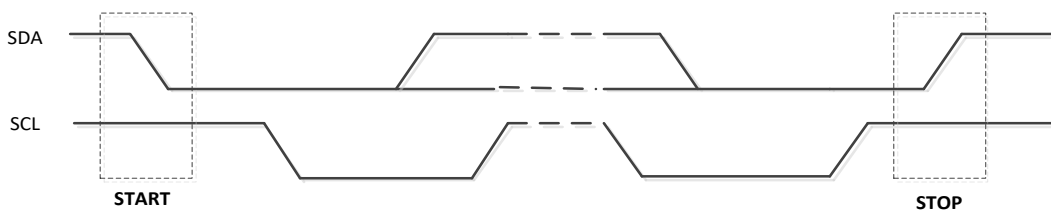

Figure 17-2 START and STOP conditions
All transactions begin with a START (S) and terminated by a STOP (P). A high to low transition on the SDA line while SCL is high defines a START condition. A low to high transition on the SDA line while SCL is high defines a STOP condition (see Figure 17-2).